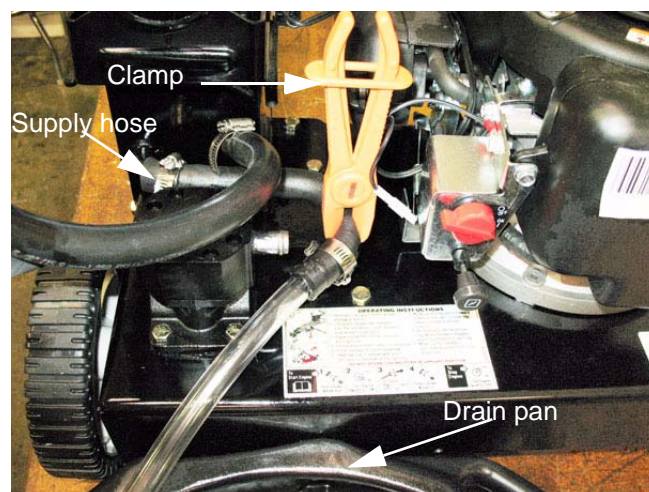

Figure 4.7
- 3.7. Drain the system: See Figure 4.7.